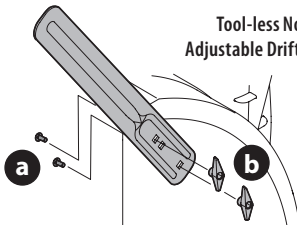

Figure 44
1. Remove two carriage bolts (a) and wing nuts (b) that secure each drift cutter, and remove them from the sides of auger housing (Figure 44).
- Turn the drift cutters around and position them as shown in Figure 44 to the outside of the auger housing.